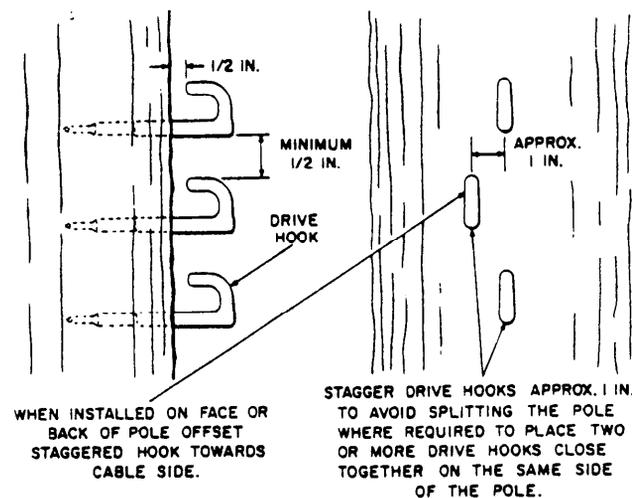

Fig. 3-Drive Hooks Installed in Pole
- 3.02 Stagger the hooks as shown in Fig. 3 when placing more than one drive hook on the same side of the pole. Try to obtain greater than the minimum vertical separation between the hooks, particularly for paralleling drop wires.